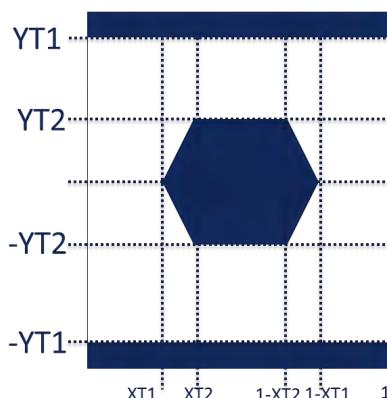

Figure 3 Serial link eye diagram
4. See Figure 3 for illustration of these values on the eye diagram of the serial links.